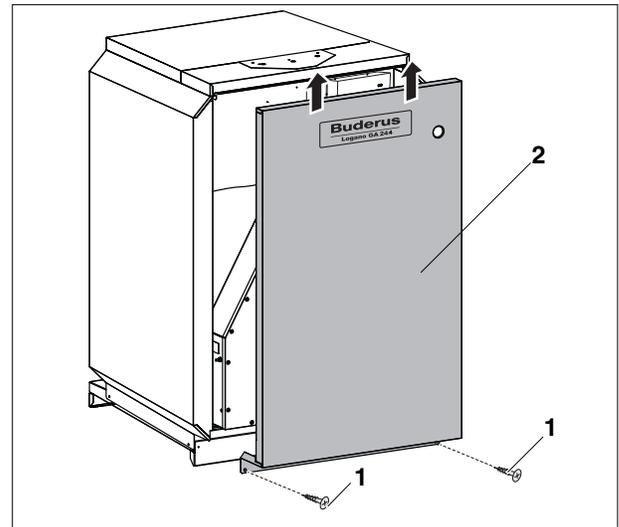

Fig. 1 Removal of front jacket panel
3. Remove jacket panel screws (Fig. 1, **Item. 1**) from left and right side, tilt forward top of front jacket panel (Fig. 1, **Item. 2**) then lift up from the bottom and remove.